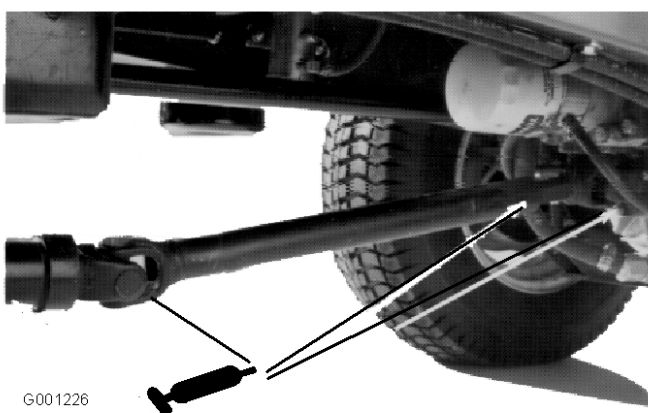

Figure 43
- Arbre de transmission (3) (Figure 43)